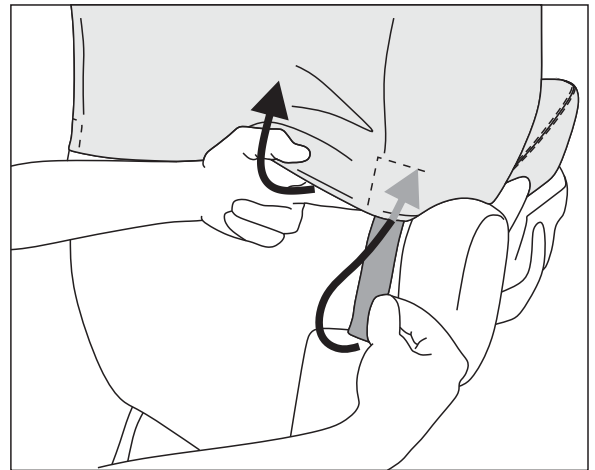

Fig.10
10. From the back of the seat, gently pull the soft loop tapes through and connect to the hard hook tapes behind the backrest cover (Fig.10).